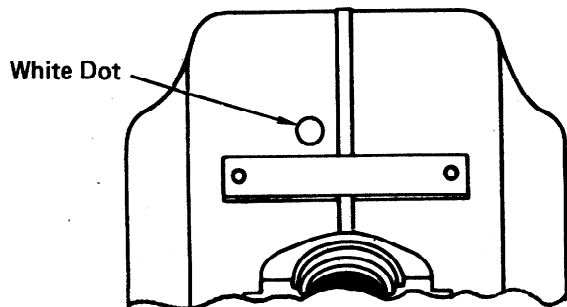

Figure 5. Typical identification mark location.
- b. The magneto must be identified by painting a white dot approximately 1/4 inch in diameter on the magneto housing at the location indicated in figure 5.
- b. The magnetos must be identified by painting a white dot approximately 1/4 inch in diameter on the magneto housing at the location indicated in figure 5.